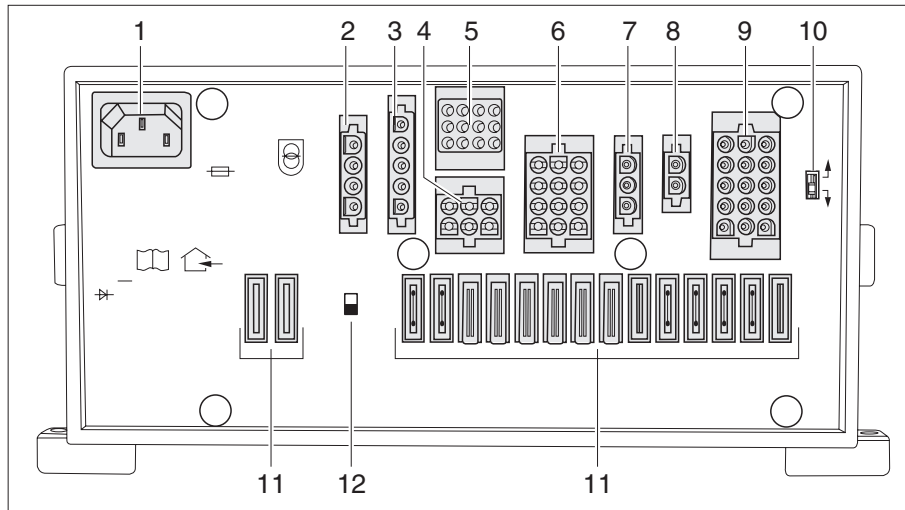

Fig. 63 Transformer/rectifier (EBL 119)
The battery cut-off switch (Fig. 63,12) disconnects all the living area 12 V appliances, even the safety/drainage valve. This prevents the living area battery from slowly discharging if the vehicle is not used for a longer period of time (e.g. temporary lay-up).
- ▶ Push up the battery cut-off switch (Fig. 63,12): Battery On.
- ▶ Push down the battery cut-off switch (Fig. 63,12): Battery Off.
At the battery selector switch (Fig. 63,10), the charger module in the transformer/rectifier can be set to the type of living area battery installed in the vehicle ("lead-gel", "lead-acid" or AGM).